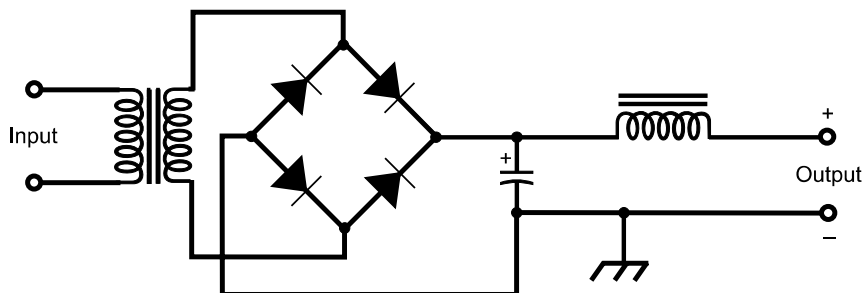

Fig. Test2-3. Illustration for Part Two Test Questions 26 and 27.
26. What is the circuit shown in Fig. Test2-3?
27. The coil in series with the output of the circuit in Fig. Test2-3, that appears to the right of the parallel-connected capacitor, is